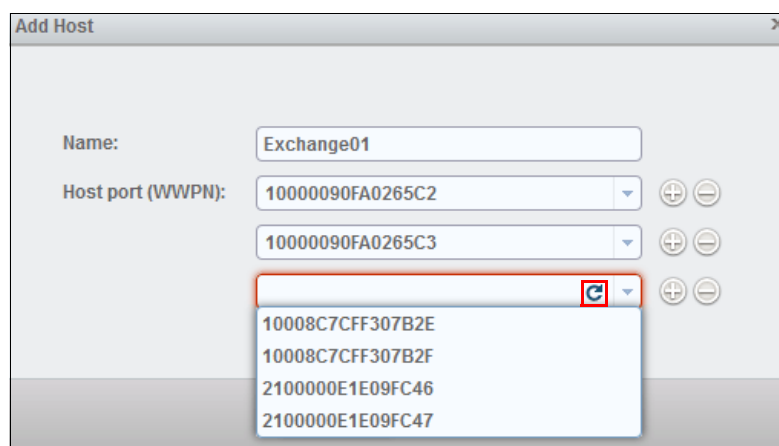

Figure 6-73 Add ports to the new host (the refresh icon is highlighted)
To create a host object, click **Add Host** in the upper-left corner of the Hosts window. The Add Host window opens. Type the name Exchange01 for the new host and click the arrow at the right side of Host port (WWPN) entry field to select the WWPNs for your Exchange server. Any WWPNs that are zoned to the system, but not already in use by a configured host, appear as shown in Figure 6-73.
**Tip:** To refresh the list, click the refresh icon, which is highlighted in Figure 6-73.